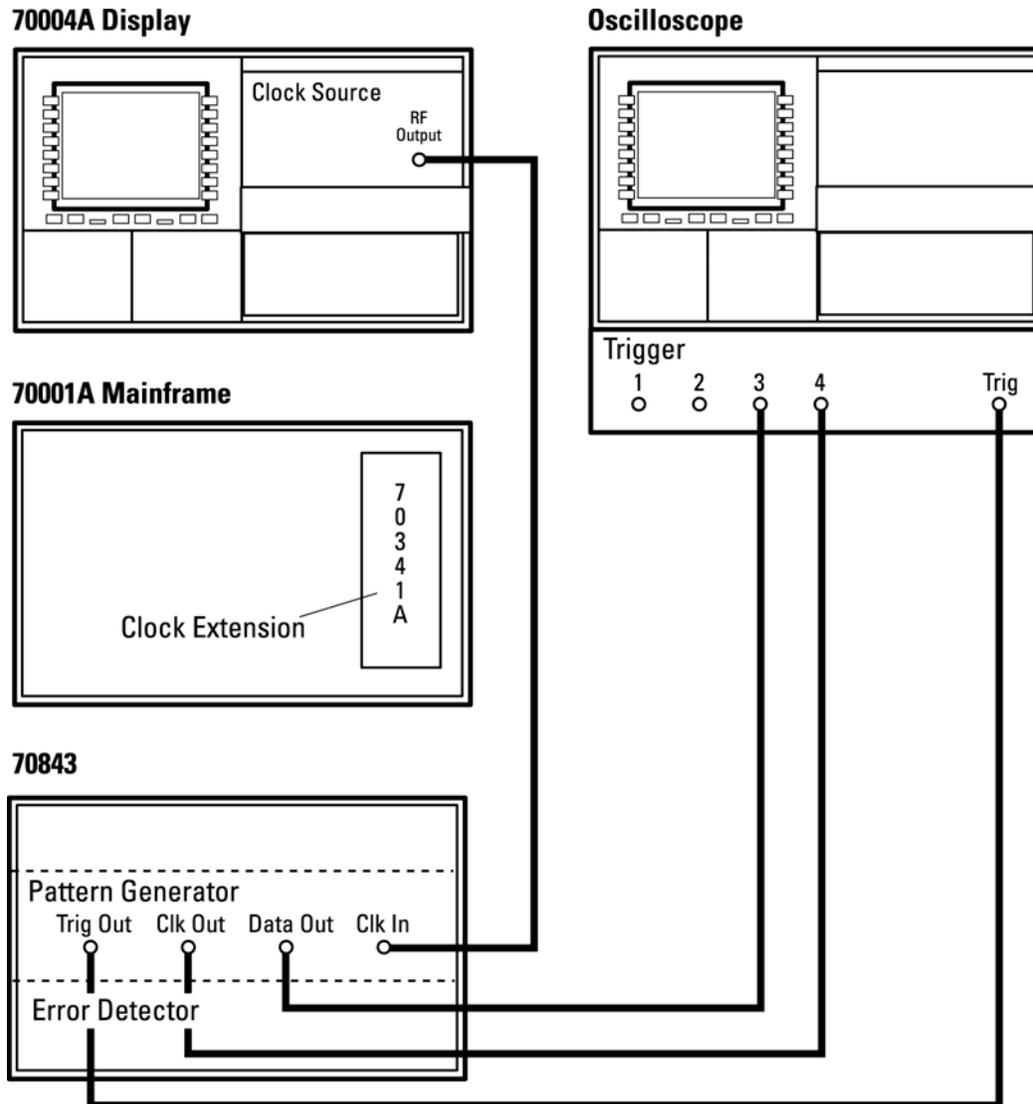

Figure 11-7
1. Connect the pattern generator clock and data outputs to the oscilloscope as shown in Figure 11-7 and set up a 1010 pattern at 1.0 Gb/s. Set the pattern generator Pattern Trigger to trigger on Pattern.